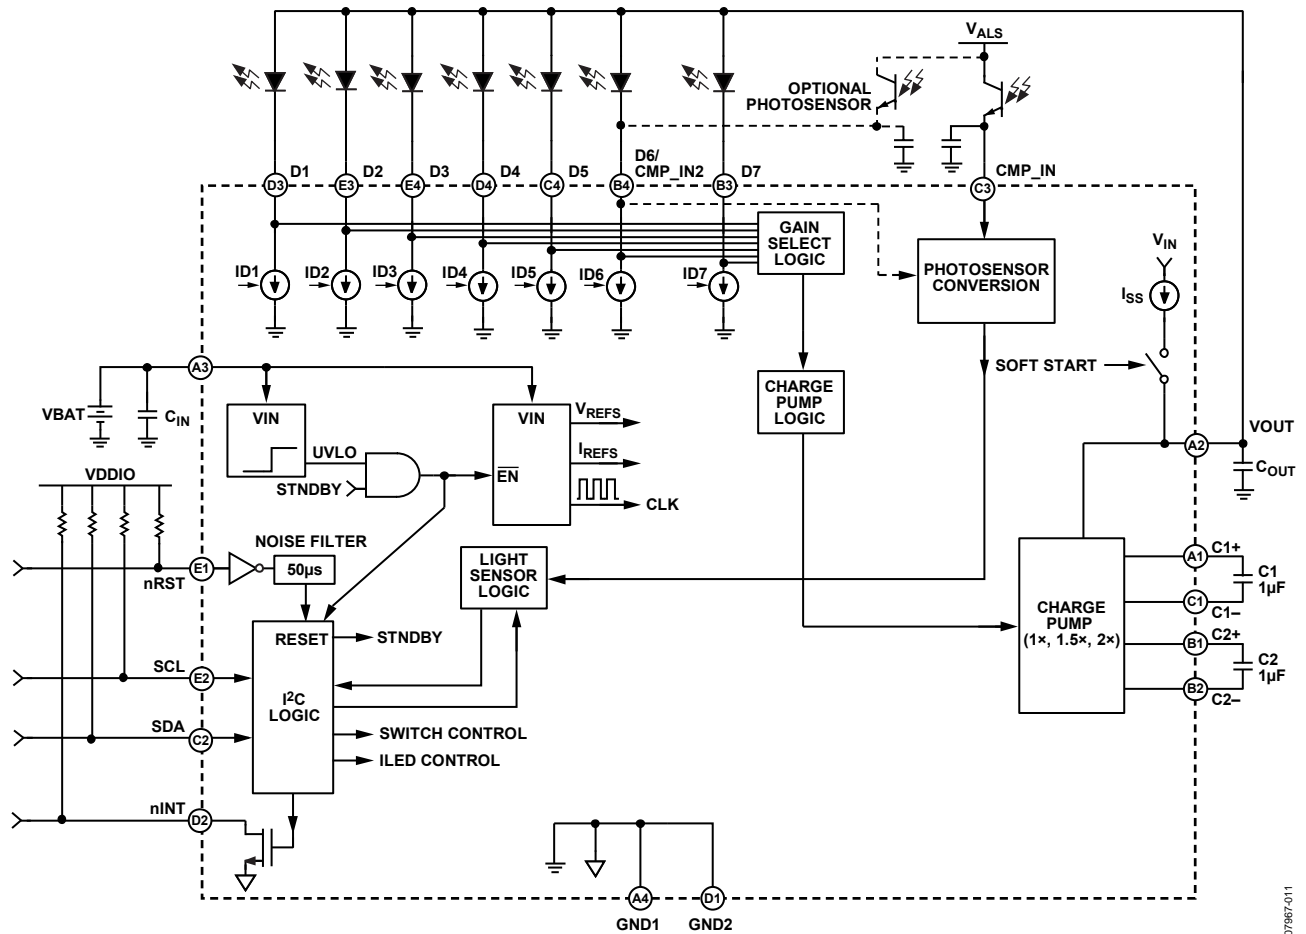

Figure 26. Detailed Block Diagram
By charging the capacitors in different configurations, the charge, and therefore the gain, can be optimized to deliver the voltage required to power the LEDs. Because a fixed charging and discharging combination must be used, only certain multiples of gain are available. The ADP8860 is capable of automatically optimizing the gain (G) from 1x, 1.5x, and 2x. These gains are accomplished with two capacitors (labeled C1 and C2 in Figure 26) and an internal switching network.